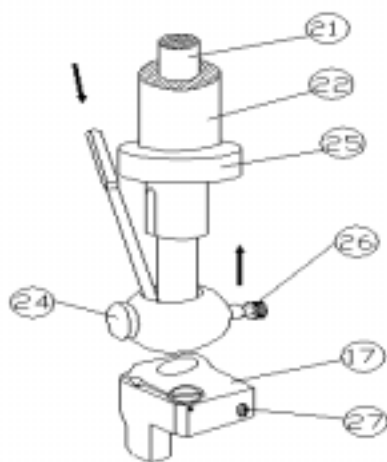

FIG. 8
Next re-mount the clamp (24) of the needle and the fabric clip (17) on their respective bars, inserting the double-hooked needle through the upper part of the clamp, as illustrated in FIG. 8. Make sure that the clamping surface on the tang of the needle is on the left of the machine and that upper end of the needle touches the stop collar (25). Tighten the screw (26). Pull the inner rod all the way up, adjusting the fabric clip so that it rests simultaneously against the clamp and the shoulder of the inner rod, and then tighten the screw (27). When these operations have been completed raise the inner rod and check that nothing impedes its movement so that the tip of the needle does not move. Turn the hand-wheel until the clamp of the needle bar (20) reaches its U.D.C. (Upper Dead Center). At this point adjust the height of the needle bar so that there is a distance of 16mm between the tip of the needle and the throat plate. Tighten the clamp of the guide (20), be careful not to deform the inner part of the needle bar. When making these adjustments, it is recommended that the needle bar be turned slightly to the left. With the needle bar at the L.D.C. (Lower Dead Center), line up the reference notch (31) on the arm, then lock the hand-wheel. FIG. 10.